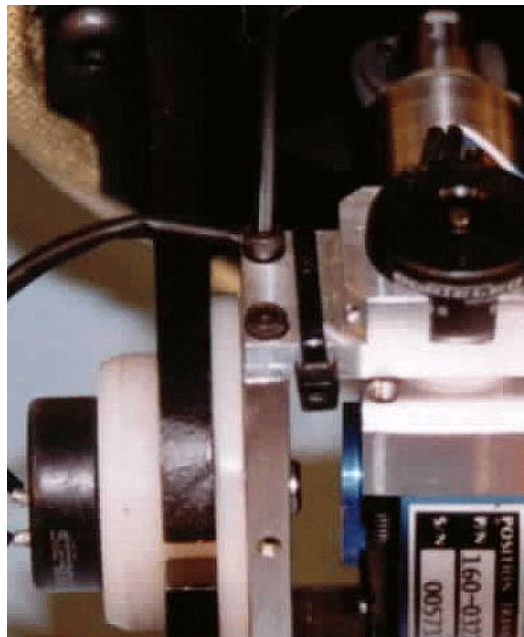

Figure 17.11- Reassembly of the yoke arms and gimbal assembly
10. Place the Teflon washers onto the lower trunnions of the String Potentiometer Assembly (T1DPM300) and reinsert the trunnion into the bearings of the DGSP yoke left arm. Replace the two #4-40 x 3/8" SHCS that hold the Right Yoke Arm (T1DPM213) to the Left Yoke Arm (T1DPM212) and Gimbal Assembly (T1DPM200), as shown in **Figure 17.11**.